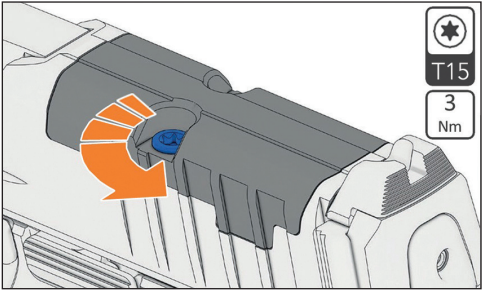

Figure 14 – Loosen screws
- 1. Loosen screws with a T15 torx bit and remove them (Fig. 14).